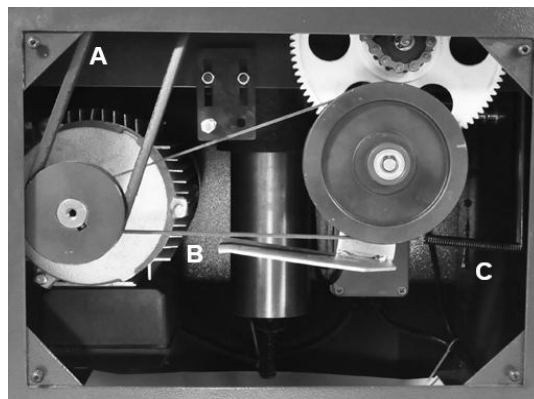

Figure 22
5. Check the tension of the Cutterhead Drive V-Belt (#228, FIG. 22, A) by applying thumb pressure. The drive belt should not give more than 3/8" in the center.